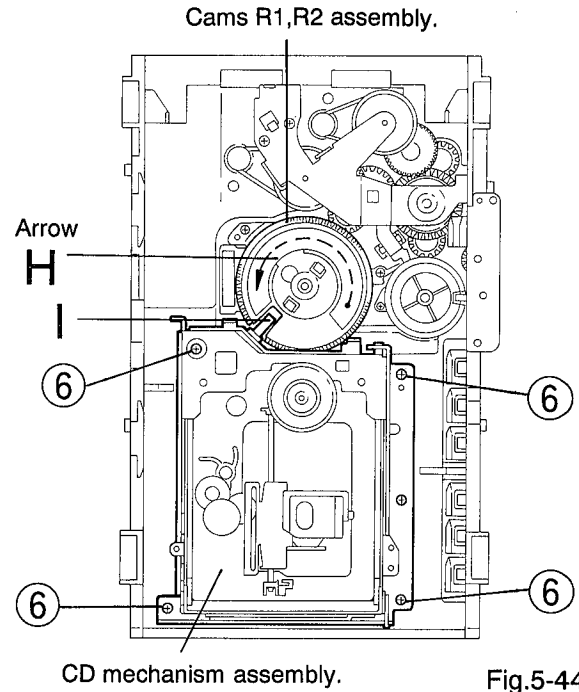

Fig.5-44
## ■ Removing the CD mechanism assembly (See Fig. 5-44)
1. While turning the cams R1 and R2 assembly in the arrow direction "H", align the shaft "I" of the CD mechanism assembly to the position shown in Fig. 5-44.
2. Remove the four screws ⑥ retaining the CD mechanism assembly (See Fig. 5-44).